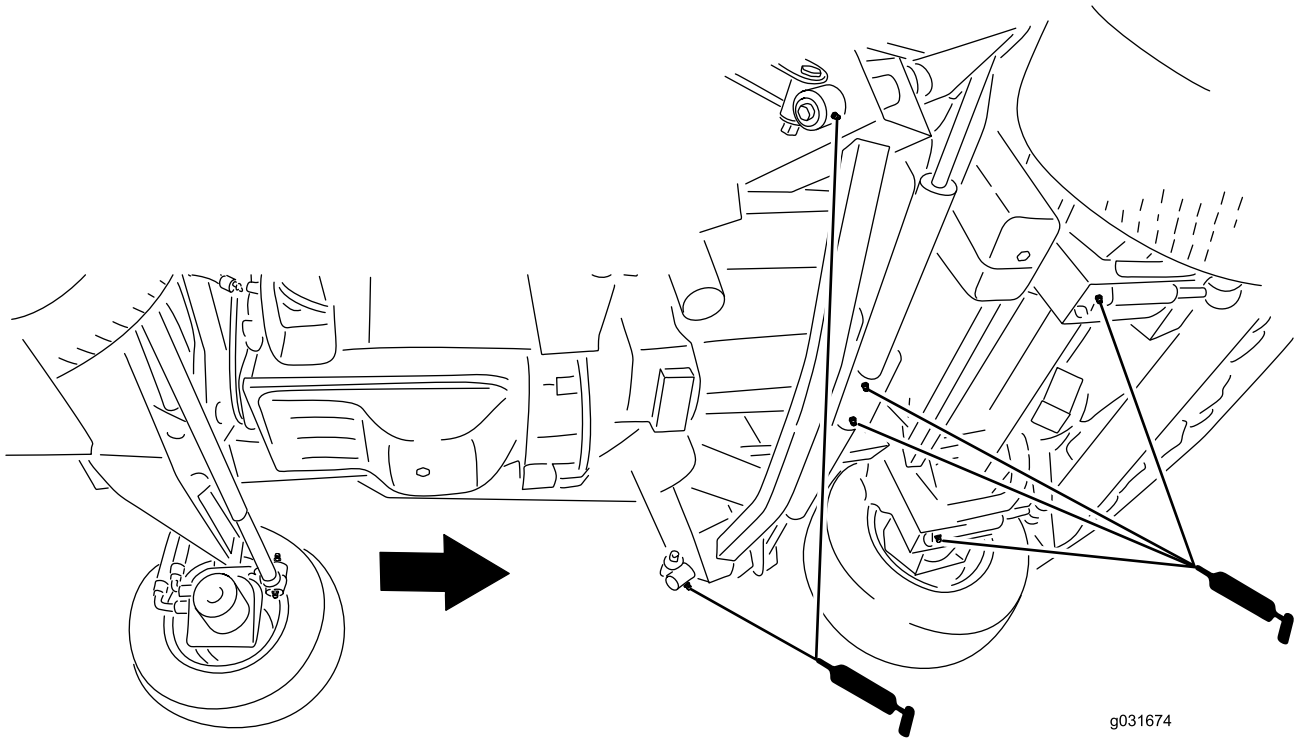

Figure 77
- 2 impact arms (Figure 77)
- 2 front deck-lift-cylinder pivots (Figure 77)
- 2 side deck-lift-cylinder pivots (Figure 77)